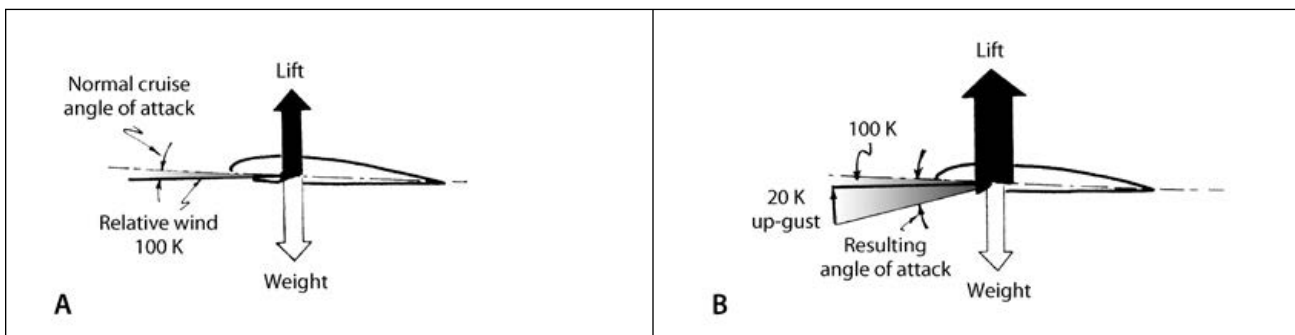

Figure 23-1. Airfoil showing the effects of a 20-K upward gust on an airplane cruising at 100 K.
Knowing that vertical gusts (up or down) can impose g loads on the airplane, you should be aware of several points. Take a look at your airspeed indicator markings and review the discussion of the airspeed indicator in Chapter 3. The green arc is the *normal operating range*, and the lower limit is the flaps-up, power-off stall speed at maximum certificated weight. The upper limit (where it meets the yellow) is called the *maximum structural cruising speed*. The yellow arc is the caution range and, of course, the red line speaks for itself. Even if the air is only mildly turbulent, keep the airspeed in the green area. Although your airplane at normal cruise will be indicating in the green, on descents you will have a tendency to let it slip up into the yellow, and the sudden encounter with turbulence at those speeds could result in excessive load factors. Figure 23-1 shows what happens when an up-gust is encountered.
In (A) in Figure 23-1, the airplane is flying in normal cruising flight at a certain required angle of attack. (You wouldn’t know the angle but would have the proper cruise power setting and would be maintaining a constant altitude.) In (B) a sharp up-gust of 20 K is encountered. The vector diagram in (B) shows that the angle of attack has been sharply increased and lift is at a much higher value than normal. *A high positive load factor is imposed.* A measure of the load factor is the ratio of lift to weight. You remember that in the steep turn at 60° of bank, you had to double the lift in order to maintain a constant altitude, which resulted in a load factor of 2.